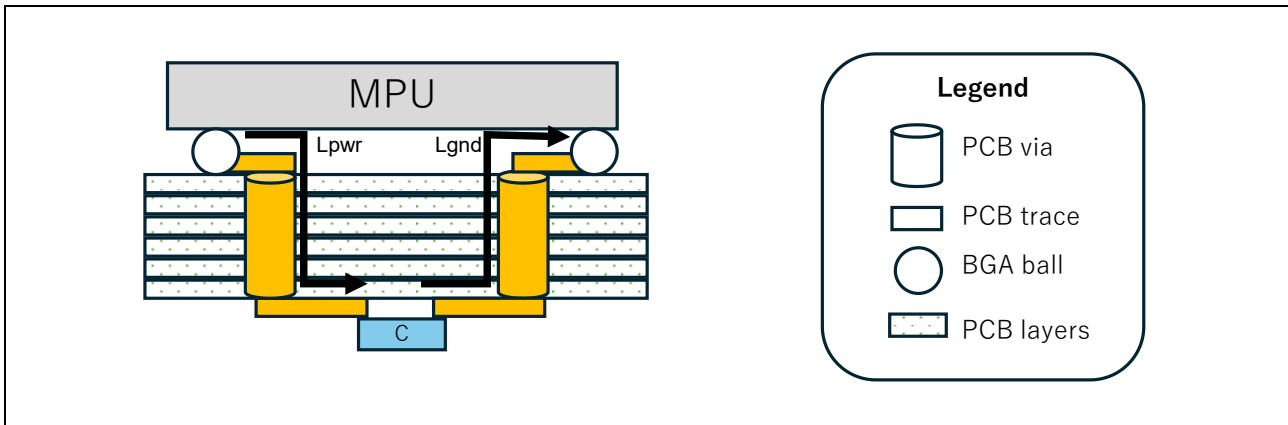

Figure A.1 Concept of Loop Inductance
**Figure A.1** illustrates the loop formed by the PCB trace and the closest decoupling capacitor.